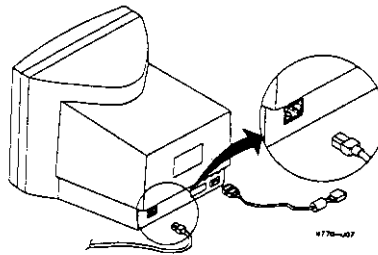

Figure 3: Connecting the Power Cord
- ♦ Locate the AC port on the rear of the monitor (refer to *Figure 3*).